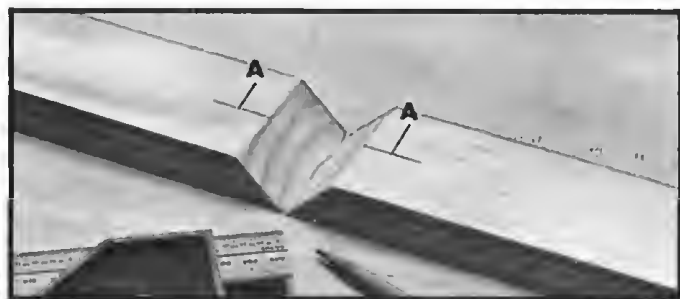

Fig. 40
1. Mark the two boards to be bevel end joined together at the points where the biscuit is to be placed, as shown at (A) Fig. 40. These marks indicate the center of the biscuit cut and should be on the opposite surface of the boards you want perfectly matched.